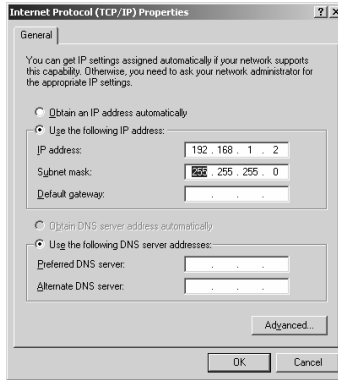

Figure 12: Internet Protocol (TCP/IP) Properties Window
6. Select Use the following IP Address, and fill in the details as shown in Figure 12.